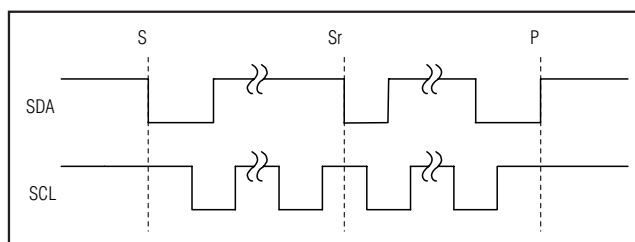

Figure 5. START and STOP Conditions
The master initiates a transmission with a START condition (S), a high-to-low transition on SDA while SCL is high. The master terminates a transmission with a STOP condition (P), a low-to-high transition on SDA while SCL is high (Figure 5). A repeated START condition ( $S_r$ ) can be used in place of a STOP condition to leave the bus active and the mode unchanged (see the *HS Mode* section).